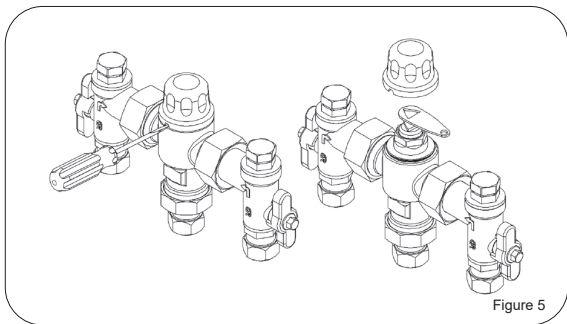

Figure 5
1. Using a small flat bladed screw driver lever the protective cover off the valve (Figure 5). (over page)
2. Fit the supplied key over the adjusting spindle (Figure 5)